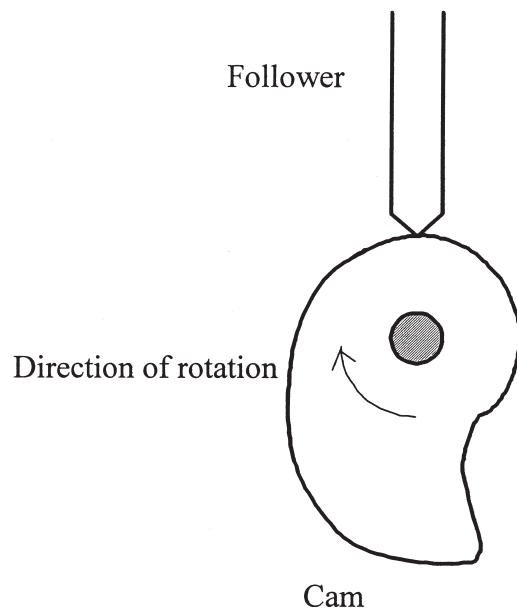

Figure 11
- (a) Describe what happens to the follower when the cam shown in **Figure 11** completes one full rotation.